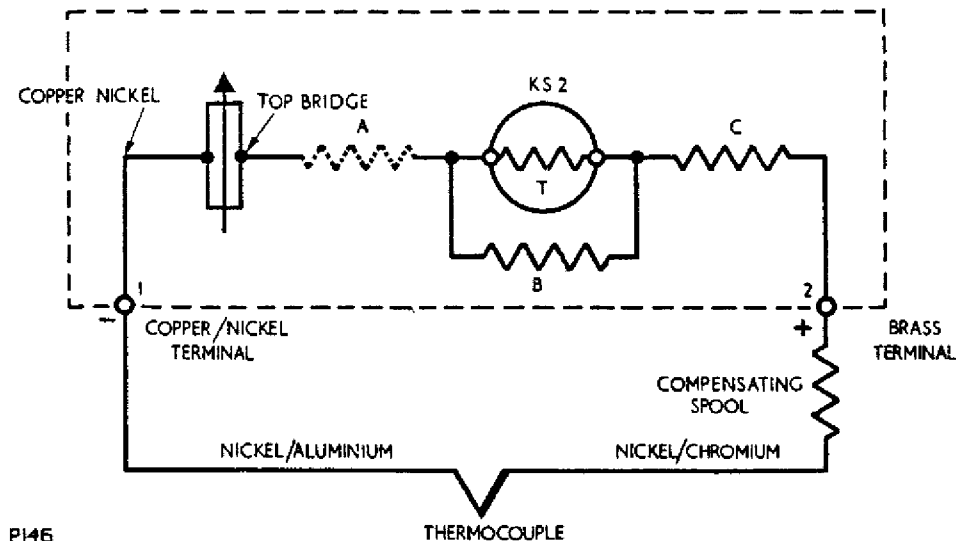

Fig.3A Circuit diagram
B. Adjustments (Refer to Figs.3A & 7)